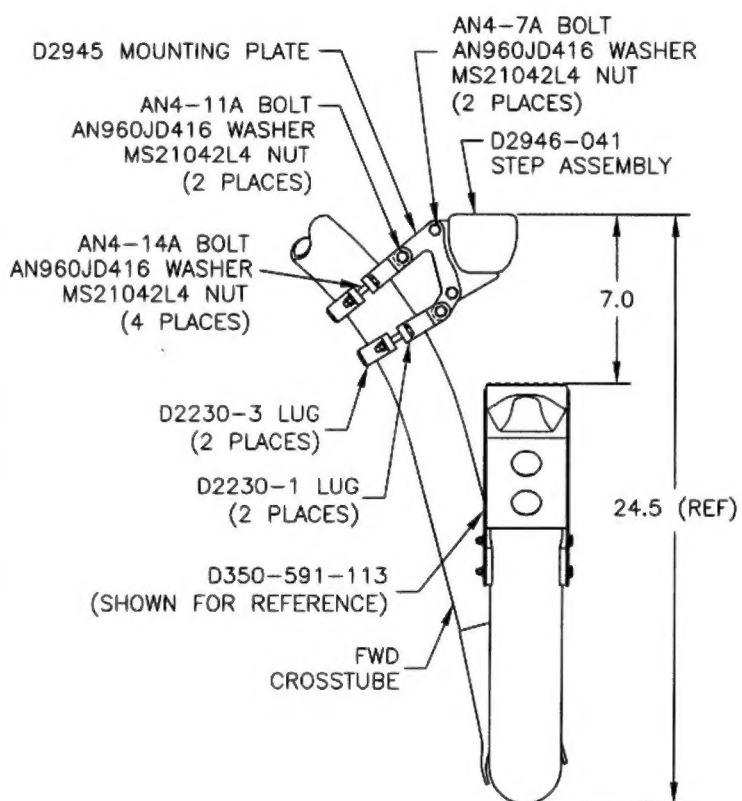

FIGURE 2: FWD CROSSTUBE
1. Attach the D2945 Mounting Plate onto the forward face of the foremost flange of the D2946-041 Step Assembly using the hardware shown in Figure 2.
3. Place the mounting lugs onto the crosstubes (see Figures 2 and 3).